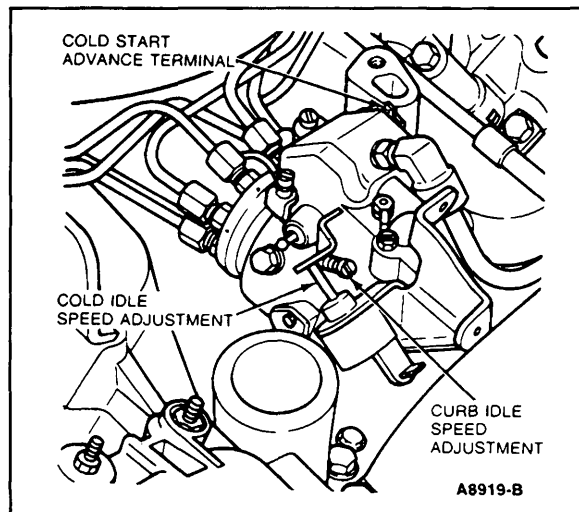

Figure 12 Idle Speed Adjusting Screw
5. Check curb idle speed, using Rotunda 055-00108 or equivalent. Curb idle speed is specified on the Vehicle Emissions Control Information (VECI) decal. Adjust to specification using idle speed adjusting screw (Fig. 12).
6. Check fast idle speed setting. Fast idle rpm should be 825 ± 25 . Adjust to specification by turning solenoid plunger in or out (Fig. 12).
4. Connect dynamic timing meter to battery and dial in minus 20 degrees offset on meter. Disconnect cold start advance solenoid connector from solenoid terminal (Fig. 12).